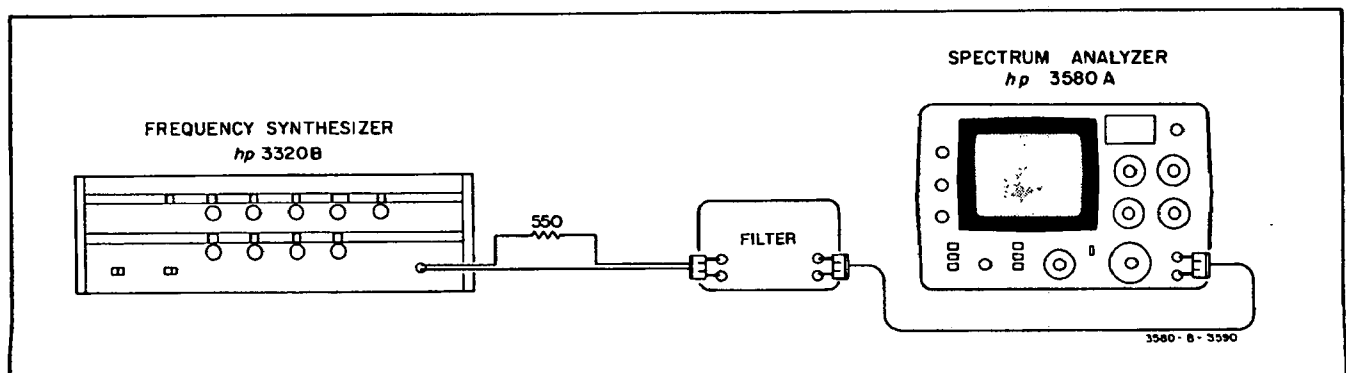

Figure 5-3. Spurious Response Test.
d. Connect the frequency synthesizer (use proper output impedance needed for the bandpass filter) to the input of the bandpass filter. Adjust the filter for a 5 kHz center frequency and adjust the synthesizer for a 5 kHz output. (For a 50 ohm source and the White 2640 filter, connect a 550 Ω resistor ($\pm 10\%$) in series between the filter and synthesizer. This gives the 600 Ω source impedance required by the White filter (See Figure 5-3).
e. Connect the output of the filter to the input of the 3580A. Always terminate properly if required. (The White Model 2640 filter requires no output termination. See Figure 5-3).